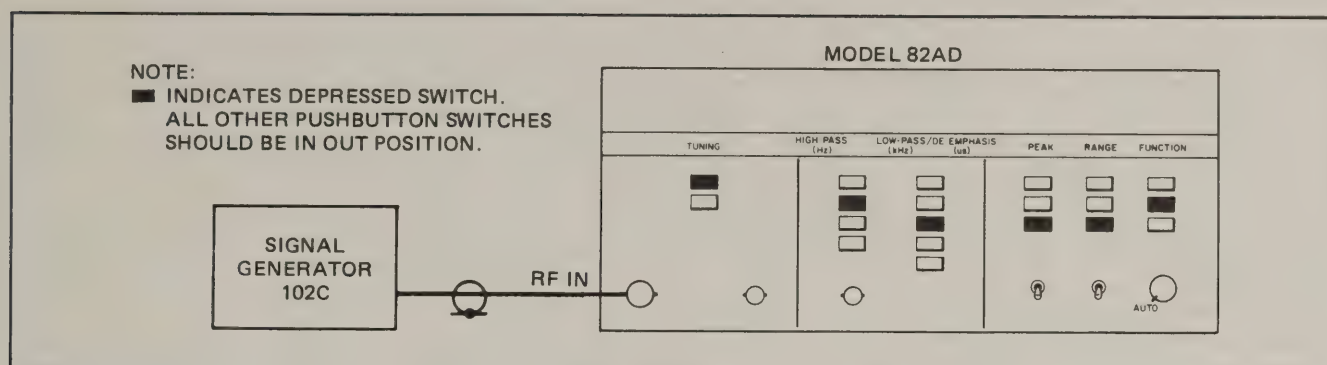

Figure 2-16 FM Rejection Check, Test Setup
a. Connect the Model 82AD and test equipment as shown in Figure 2-16.
b. Depress the Model 82AD switches indicated in Figure 2-16.